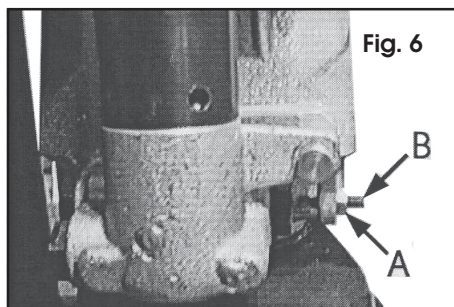

Fig. 6
4. If the forks rise but lower immediately you stop pumping or only lift slowly, slacken the locknut 'A' and screw the adjuster 'B' anticlockwise half a turn as shown in Fig 6 and try again.
5. If the forks do not lower when the control handle is in the LOWER position, turn the adjusting screw (A) in clockwise until the handle lowers the forks. Tighten locknut 'B'. Check it's operation in the TRANSPORT position.